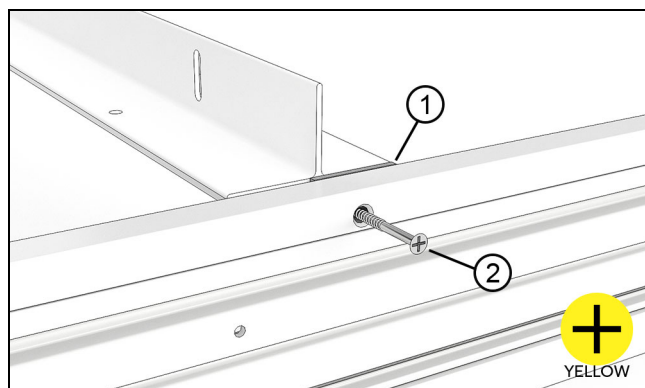

Figure 53 Fasten interlock to sill
12. Fasten the pocket interlock to the sill using the #8 x 2 1/2" (6) screw through the pre-drilled hole in the sill and into the screw boss on the interlock. See Figure 53.